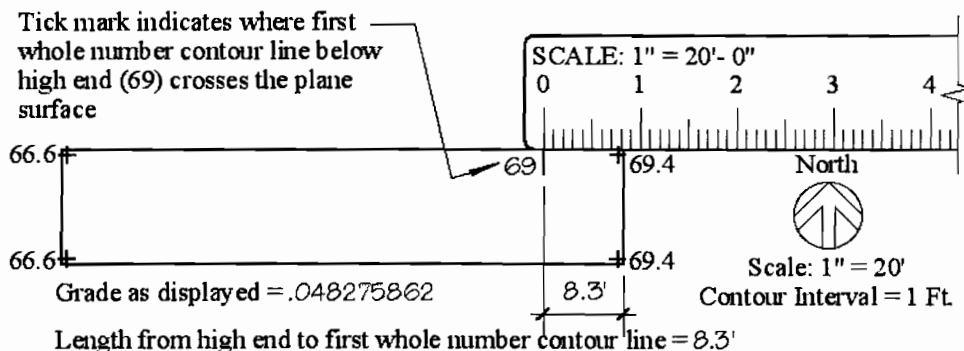

Figure 10. Scale to Locate First Whole Number Contour Line
Step 4. Scale 8.3 feet west from the high end (69.4) and place a tick mark at that point. Number it "69" to keep track of which contour it represents as shown in Figure 10.